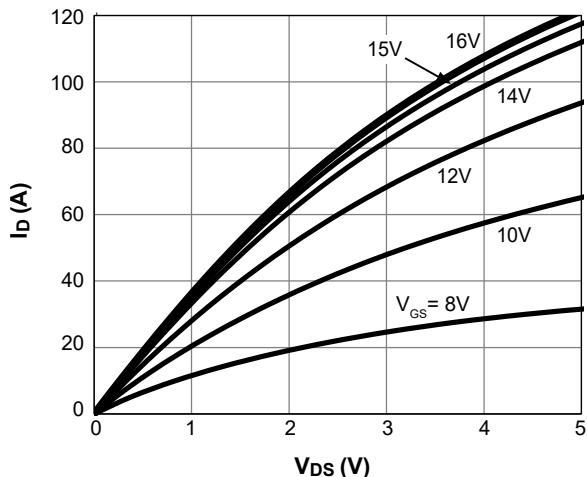

Figure 1. On-region Characteristics $T_J = 25^\circ\text{C}$
H. The static characteristics in Figures 1 to 8 are obtained using $< 300\mu s$ pulses, duty cycle 0.5% max.